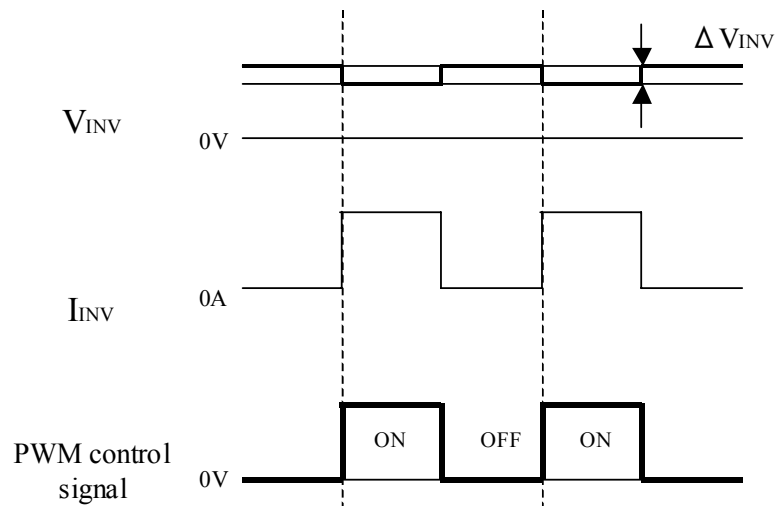

Fig.4 Brightness control voltage.
- c) Brightness control voltage is switched for “ON” and “OFF”, as shown in Fig.4. Voltage difference generated by this switching, ΔV_{INV} , may affect a sound output, etc. when the power supply is shared between the inverter and its surrounding circuit. So, separate the power supply of the inverter circuit with the one of its surrounding circuit.